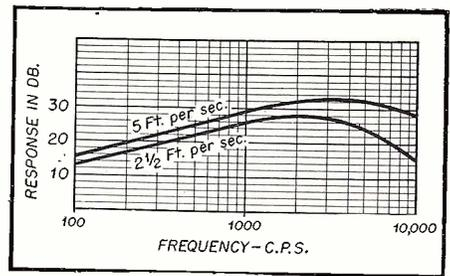

Fig. 8. Response/frequency characteristics.
The frequency response of a magnetic tape recording system is dependent mainly upon three things: (1) the speed of tape travel (see Fig. 8); (2) the magnetic characteristic of the tape used; (3) the width of the playback gap.